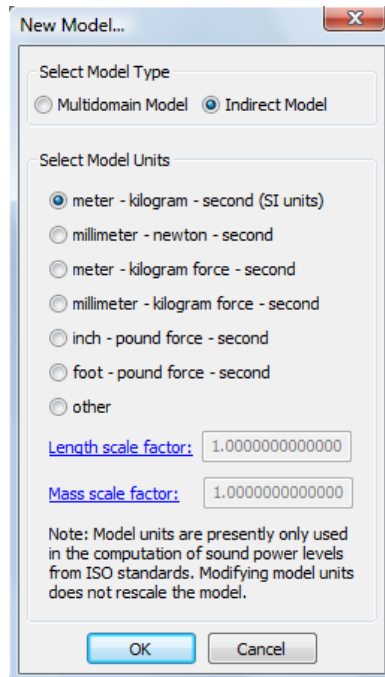

Figure 9.28: New Model Selection Window.
- In the main menu select: **File** → **New Model**. The window in Figure 9.28 will then appear.